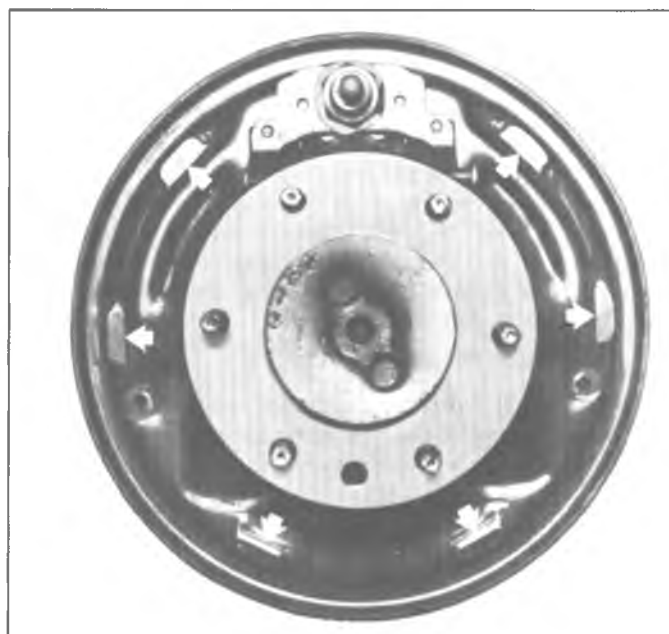

Fig. 48--Flange Plate Contact Surfaces
4. Check all brake flange plate attaching bolts to make sure they are tight. Clean all rust and dirt from shoe contact faces on flange plate (fig. 48), using fine emery cloth.